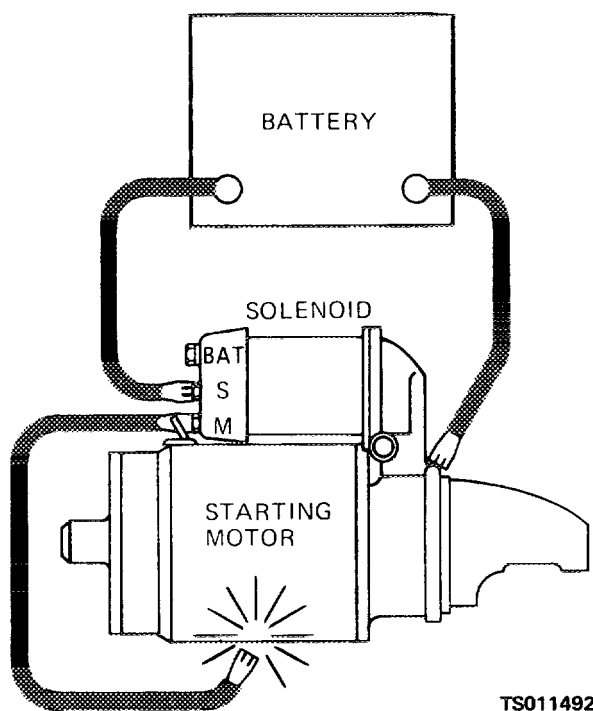

Figure 3-13. Circuit for checking pinion clearance.
b. *Pinion Clearance Check.* After removing the starting motor, check pinion clearance. The clearance cannot be adjusted, but improper clearance will indicate worn parts and the need for starting motor replacement. To check the pinion clearance, refer to figure 3-13 and proceed as follows: